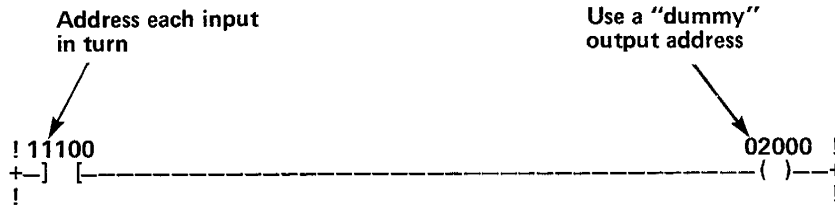

Figure 4.3 – Rung for Input Testing
- **Step No. 4** – Program a “dummy” rung, examining the status of the input device. In this type of rung, a “storage bit” is to be energized, rather than any output device. Figure 4.3 shows a sample rung which can be used for this purpose. (Refer to the Programming and Operations Manual for additional information on using storage bits.)